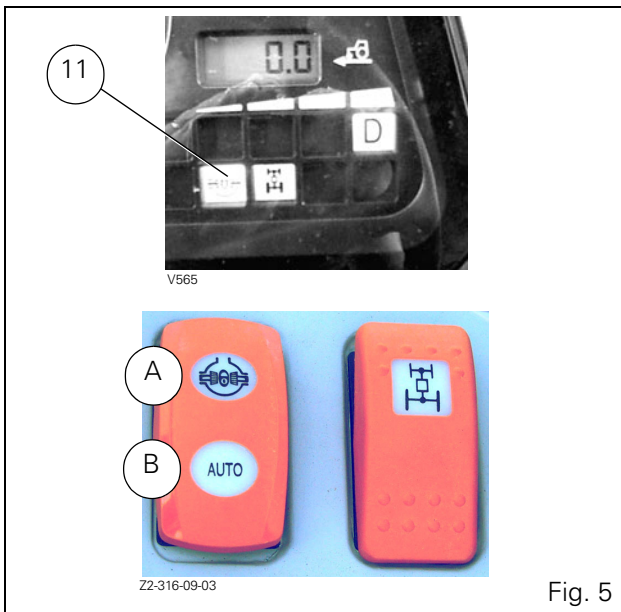

Fig. 5
- A. If wheel spin is anticipated, press on differential lock switch A. The corresponding indicator light 11 (Fig. 5) comes on. For optimum performance, engage the differential lock when starting a run.